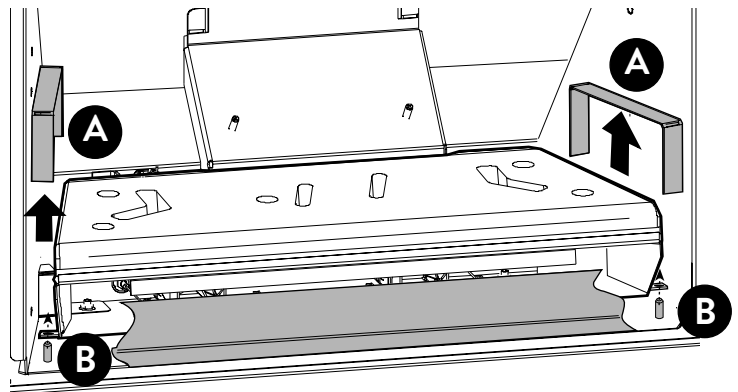

Figure 7.5. Burner removal.
4. **REMOVE THE BURNER: Fig. 7.5**
- Replace the two Side Panel Shelves, between the burner and the walls. fig. 7.5.